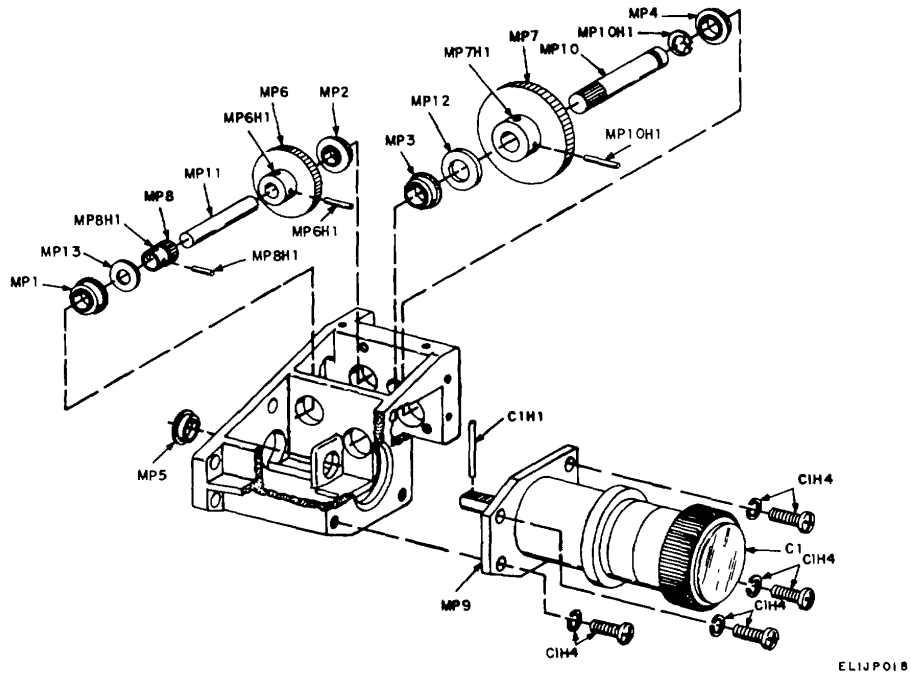

Figure 4-1. Gear train assembly A3, exploded view.
(1) Remove core flux generator holders MP-16 and MP17 by loosening and removing four screws, flat washers, and lockwashers MP54H.
(2) Remove plate L4 by loosening one screw and lockwasher L4H1 and two screws MP23H1 and MP22H1 and then unsoldering the end of L4 from antenna element MP13.
(3) Remove four screws MP5H4 and carefully position flux generator bracket MP5 away from the base plate.
(4) Remove four screws and lockwashers MP2H4 and separate flux generator base MP2 from the base plate.
(5) Coil L1 or L2 is removed from flux generator base MP2 by removing two screws, lockwashers and flat washers L1 or L2H2.
d. Removal of Capacitor A3C1. (fig. 4-1)
(1) Remove access panel MP18 by loosening three screws MP18H3 and five screws MP18H5.
(2) Remove the screw, washer and rim clench clamp assembly MP7 that is next to base plate MP20.
(3) Remove the two screws and lockwashers MP12H3 and the three screws and lockwashers MP12H3 that are attached to cover MP12
(4) Remove cover MP 11 by loosening four screws MP11H4 and two screws MP11H2.
(5) Separate servo amplifier card A1 from backing plate MP21 by removing five screws A1H5 and one screw A1H1. Nut and washer MP6H1 and loop clamp MP6 are attached to screw A1H1
(6) Remove four screws MP21H4 from backing plate MP21 and carefully position backing plate MP21 away from control motor B1.
(7) Remove the remaining three screws, washer, and rim clench clamp assemblies MP7 on control motor B1.
(8) Remove four screws A3H4 and lockwashers A3H6 and two screws A3H2 and lockwashers A3H6 and separate gear train assembly from base plate MP20.
g. Disassembly of Gear Train Assembly A3. (fig. 4-1)
(1) Removal of gears MP6 and MP8.
(1) Position gear train assembly A3 on base plate MP20, inserting the shaft of control motor B1 through the hole in the casting that allows the shaft to engage gear MP6 (fig. 4-1)
(2) Secure control motor B1 to gear train assembly A3 with the two screws, washer, and rim clench clamp assemblies MP7 that are away from base plate MP20.
(3) Secure gear train assembly A3 to base plate MP20 using four screws A3H4 and lockwashers A3H6
(fig. 4-1)